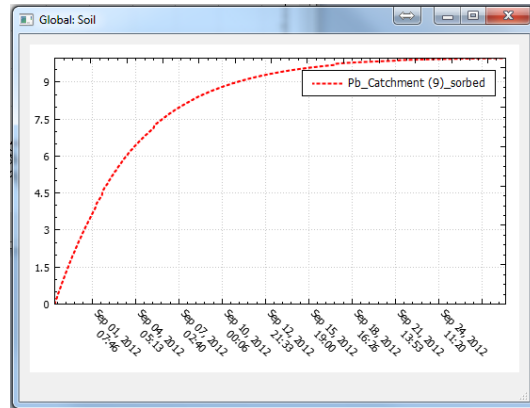

Figure 4.20: Concentration of Pb accumulated on the surface for the case when solid-water exchange is inactive
9. Right-click on one of the catchment blocks and click on **Plot water quality results**→**Sorbed/particle associated**→**Pb**→**Soil** to see the temporal variation of Pb accumulated on the surface. The results should look like Figure 4.20. As it can be seen the concentration asymptotically approach  $10mg/m^2$ . The concentration of Pb in the runoff is zero due to the fact that no release properties have been attributed to Pb.